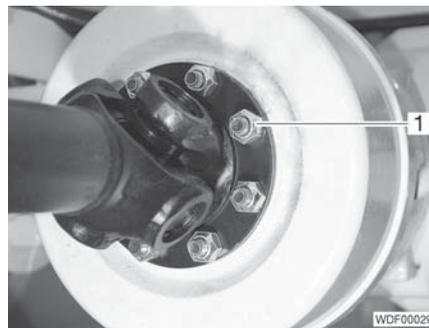

Fig. 232 Connection to the front axle
- Unscrew the 8 nuts (Fig. 232,1).
- Screw the 8 nuts (Fig. 232,1) onto the threaded bolts and tighten.